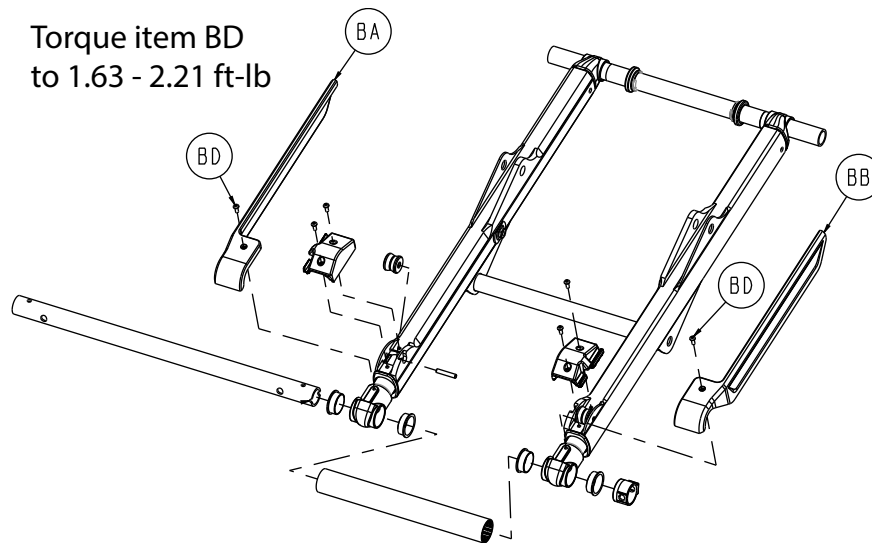

Figure 84 – Remove the base leg guard
14. Using a T25 Torx driver, remove the screw (BD) that secures the base leg guard (BA, BB) (Figure 84). Remove and save the base leg guard. Save the screw.